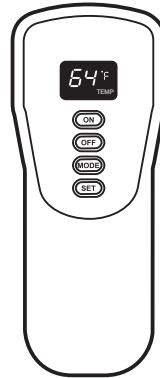

Figure 20 - Remote Control
4. Press the ON button on the remote control to light the burner (see Figure 20). You will hear a series of beeps. This will also "learn", or program, the remote and the receiver.
The factory setting for temperature is °F. To change this setting to °C, press the ON key and the OFF key on the remote control at the same time (see Figure 20, page 17). This will change from °F to °C. Follow this same procedure to change from °C back to °F.